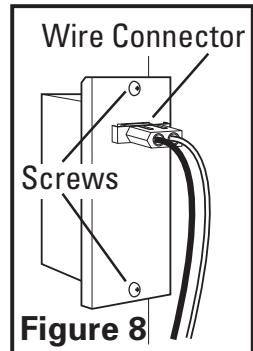
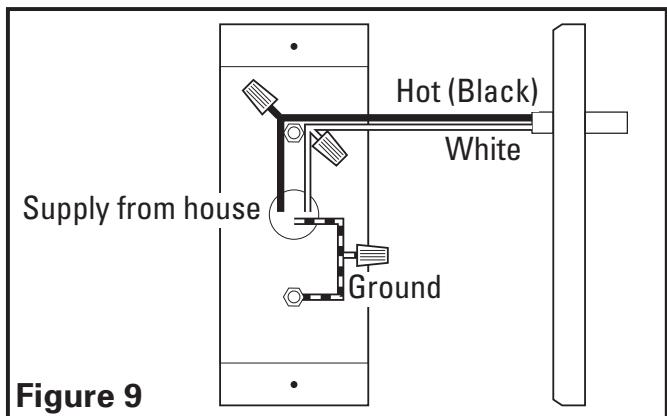

Figure 8
Figure 9
- Remove the two wire compartment cover screws to gain access into the wire compartment (Figure 8). Connect the white wire from the range hood to the white wire from the supply, and the black wire from the range hood to the black wire of the supply. Connect the ground wire from the home (green or bare) to the ground wire (green) from the hood. Use approved methods for all connections (Figure 9).
- Replace the wire compartment cover and tighten screws. Make sure all wiring is securely contained within the wire compartment. If the quick connect wire connector was removed from the receptacle, replace. The connector will only fit one way into the receptacle (Figure 8).